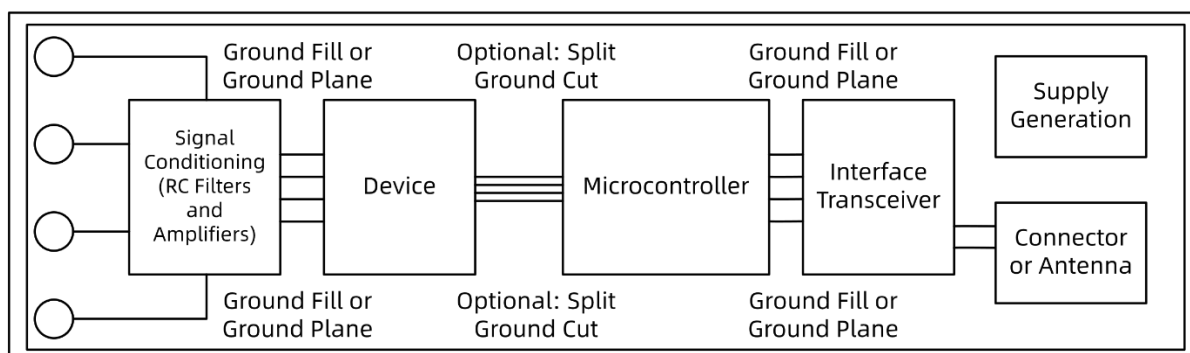

Figure 14. System Component Placement
Employ best design practices when laying out the printed circuit board (PCB) for analog and digital components. For optimal performance, separate analog components [such as ADCs, amplifiers, references, digital-to-analog converters (DACs), and analog MUXs] from digital components [such as microcontrollers, complex programmable logic devices (CPLDs), field programmable gate arrays (FPGAs), radio frequency (RF) transceivers, universal serial bus (USB) transceivers, and switching regulators]. Figure 14 shows an example of good component placement. While Figure 14 provides a good example of component placement, the optimal placement for each application depends on the geometry, components, and PCB manufacturing capabilities employed. That said, no one layout will work perfectly for every design, and careful consideration must always be made when designing with any analog component.